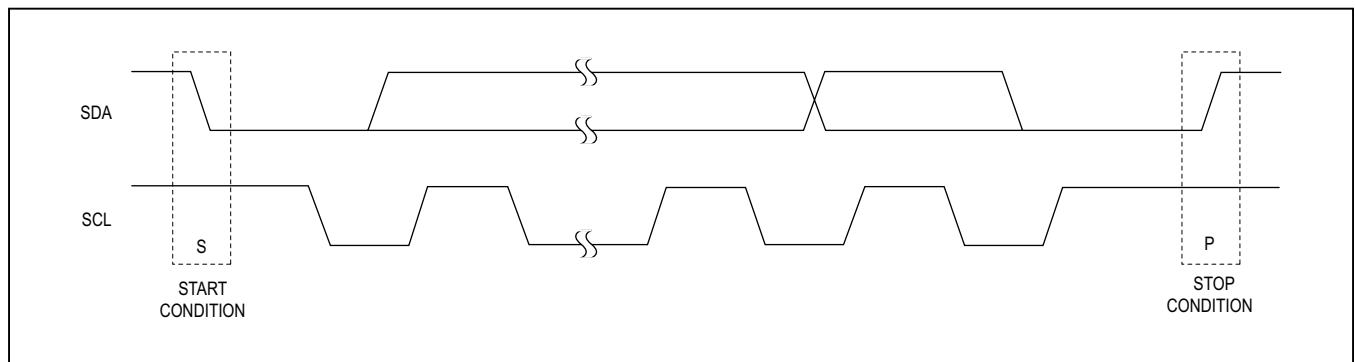

Figure 29. START and STOP Conditions
Both SCL and SDA remain high when the interface is not busy. A master signals the beginning of a transmission with a START (S) condition by transitioning SDA from high to low while SCL is high (see Figure 29). When the master has finished communicating with the slave, it issues a STOP (P) condition by transitioning SDA from low to high while SCL is high.